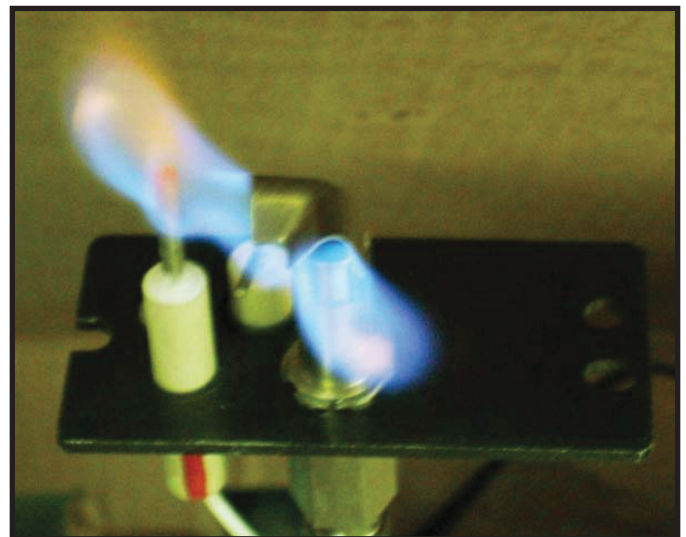

Figure 3.1 IPI Pilot Flame Patterns
- Inspect pilot flame pattern and strength. See Figures 3.1 for proper pilot flame pattern. Clean or replace orifice spud as necessary.